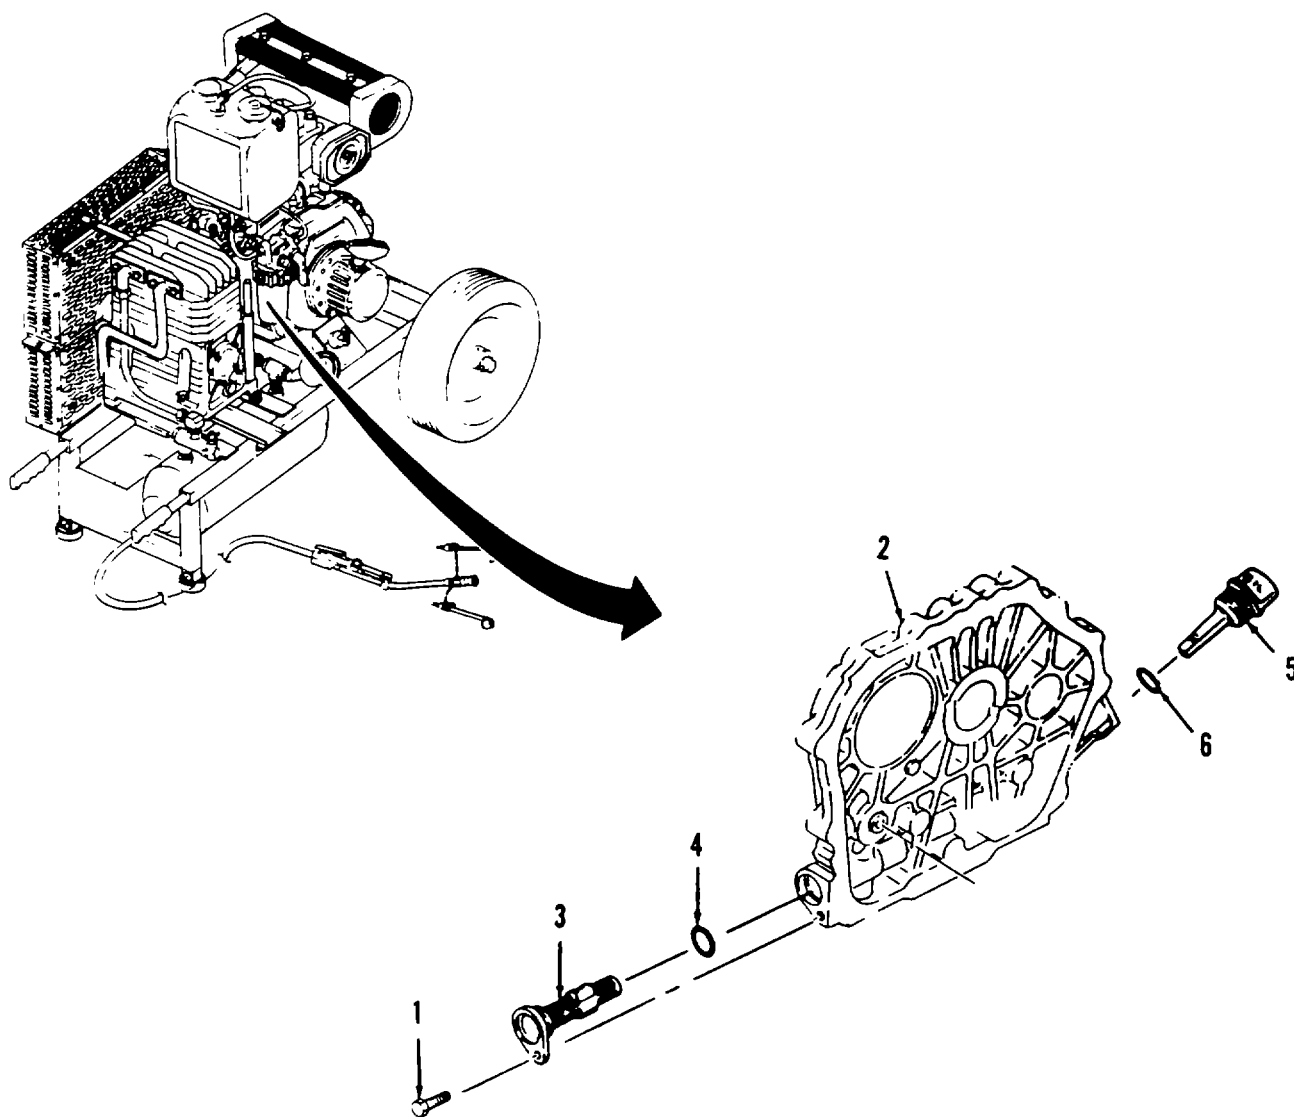

Figure 4-20. Lube Oil Strainer Repair and Replacement.
a. Removal. (Refer to Figure 4-20).
- (1) Drain oil from engine (Refer to LO 9-4310-394-12).
- (2) Remove hex head bolt (1) from crankcase (2).
- (3) Remove lube oil strainer (3) and O-ring (4). Discard O-ring.
- (4) Remove two oil cap/gauges (5) and two O-rings (6). Discard O-ring.